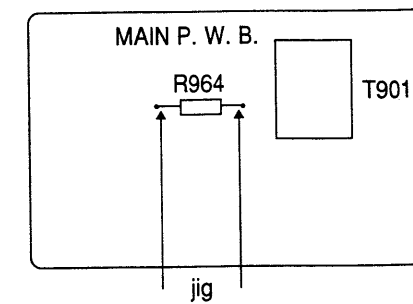
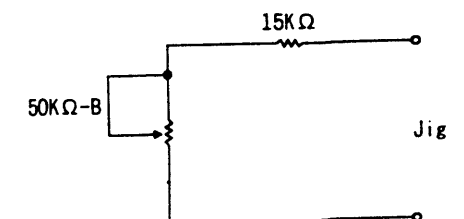

Fig. 1
Fig. 3
5. Turn the switch of the set to off and connect the jig shown in Fig. 3 at both ends of R964 as shown in Fig. 1.